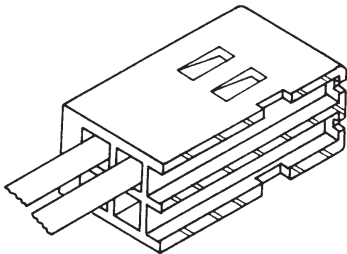

Figure 3
4. Insert the wire contact into the socket as shown in Figure 3 and 4. Check to make sure that the tang, shown as “A” in Figure 4, is properly latched by lightly pulling on the wire.